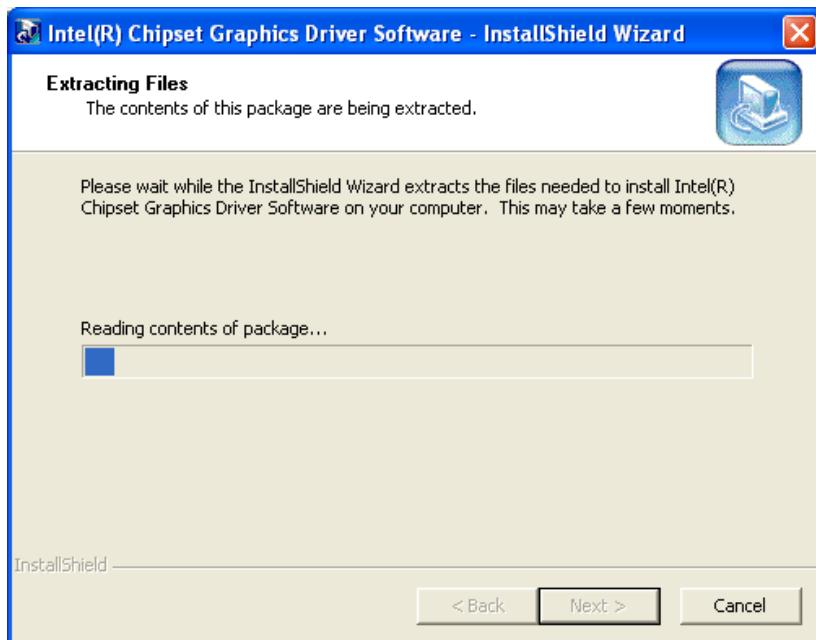

Figure 6-10: VGA Driver Setup Files Extracted
**Step 5:** The installation files are extracted. See **Figure 6-10**.